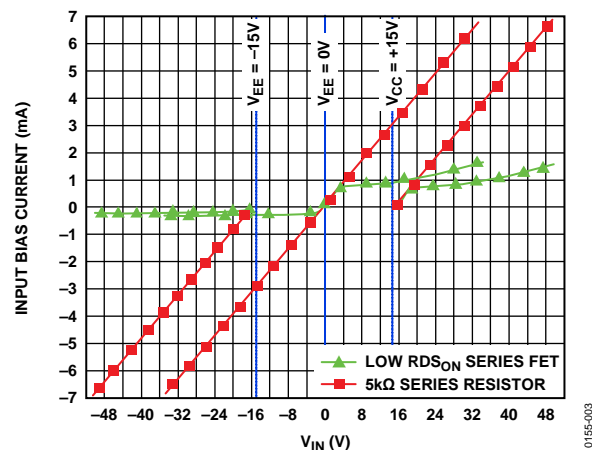

Figure 3. Input Current Limiting Capability
Figure 3 shows the input current limiting capability of the ADA4096-2 provided by low RDS(ON) internal series FETs (green curves) compared to using a 5 kΩ external series resistor with an unprotected op amp (red curves).
Figure 3 was generated with the ADA4096-2 in a unity-gain buffer configuration with the supplies connected to GND (or ±15 V) and the positive input swept until it exceeds the supplies by 32 V. In general, input current is limited to 1 mA during positive overvoltage conditions and 200 μA during negative undervoltage conditions. For example, at an overvoltage of 20 V, the ADA4096-2 input current is limited to 1 mA, providing a current limit equivalent to a series 20 kΩ resistor.
Figure 3 also shows that the current limiting circuitry is active whether the amplifier is powered or not.
Figure 3 represents input protection under abnormal conditions only. The correct amplifier operation input voltage range (IVR) is specified in Table 2 to Table 4 of the ADA4096-2 data sheet.